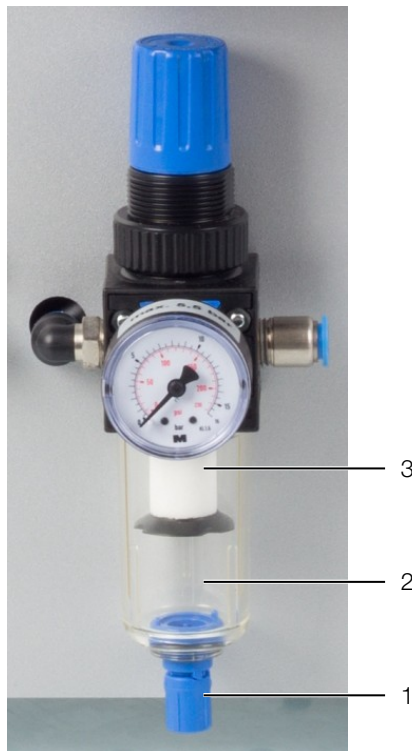

Fig. 24: Compressed air maintenance unit
- To drain the condensate press the drain plug (fig. 24, item 1) upwards.
- To change the filter, unscrew the condensate tank (fig. 24, item 2) and screw off the filter (fig. 24, item 3).